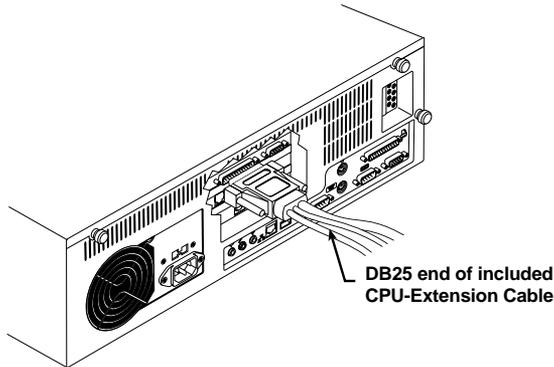

Figure 3-2. Attaching the CPU-extension cable to the ServLINK.
1. Plug the DB25 female connector of the included three-to-one CPU-extension cable into the DB25 male port on the topmost daughtercard on the rear of the ServLINK unit, as shown in Figure 3-2.